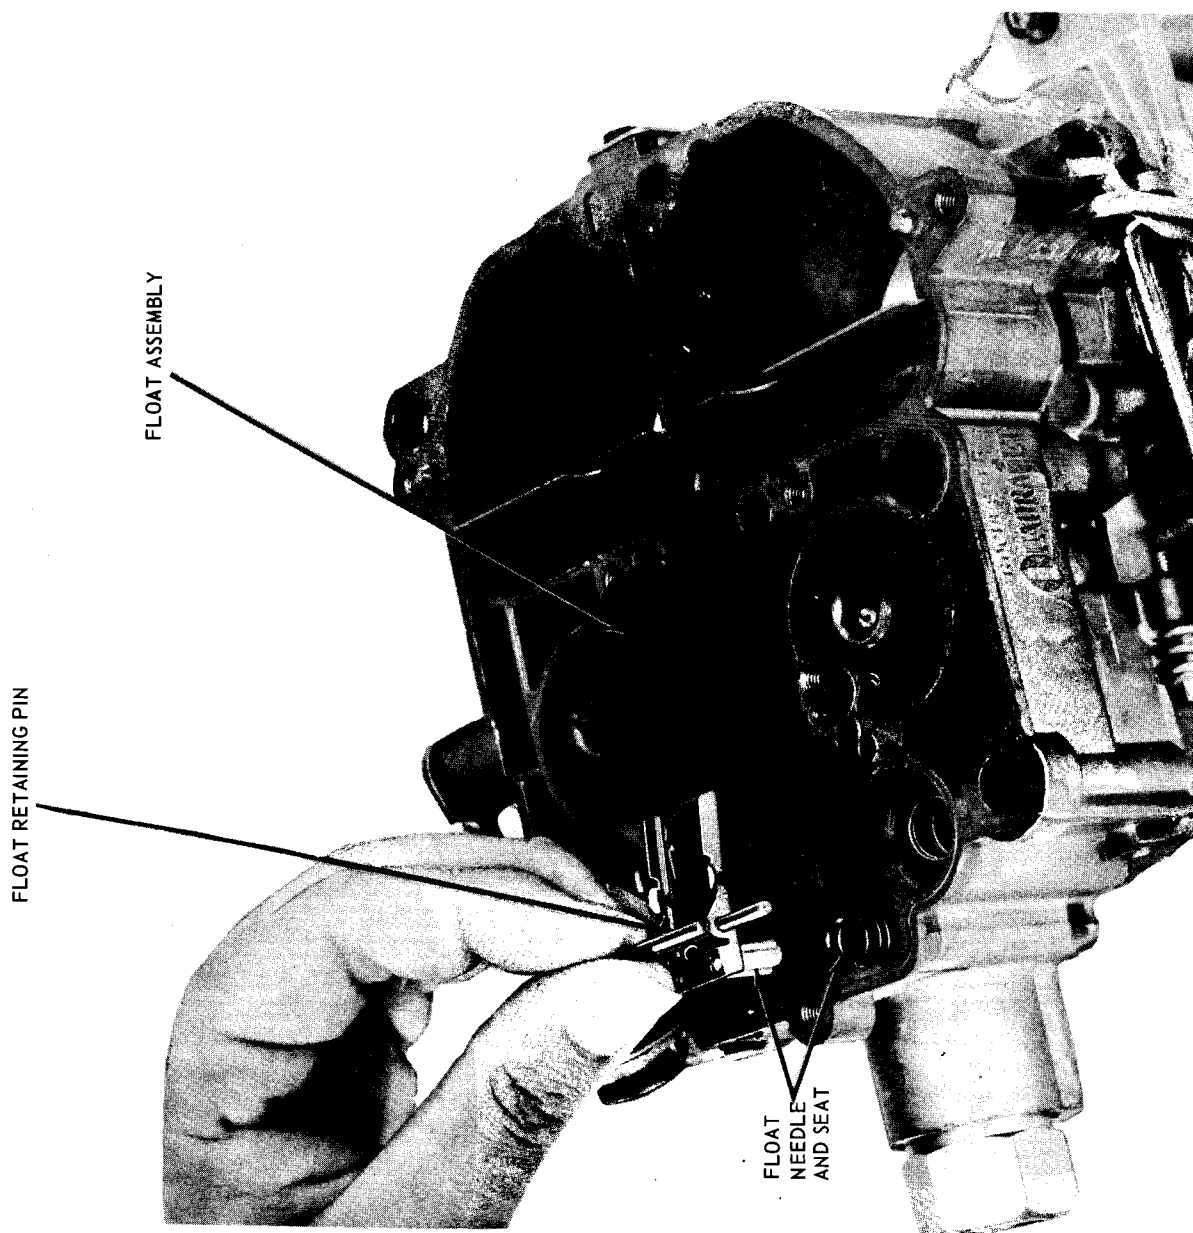

Fig. 6B-88 Float & Float Needle R & R
3. ADJUST FLOAT LEVEL (FIG. 6B-73)